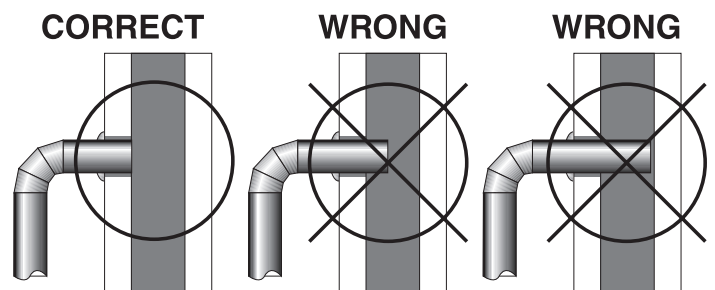

Fig.9 – Stovepipe/Flue Connections
4. The pipe cannot extend into the chimney flue (fig. 9).
5. Secure pipe/elbow sections with a minimum of three (3) equally spaced sheet metal screws at each joint and at the stove collar to make the pipe rigid.
6. It is recommended that no more than two (2) 90 degree bends be used in the stovepipe installation. The use of more than two 90 degree bends may decrease the amount of draw and possibly cause smoke spillage. Where possible, use only corrugated (nonadjustable) elbows. These provide a better seal.
4. Install the stovepipe into the thimble as far as possible without extending past the flue lining (see figures 9 & 10 on pages 8 & 9).